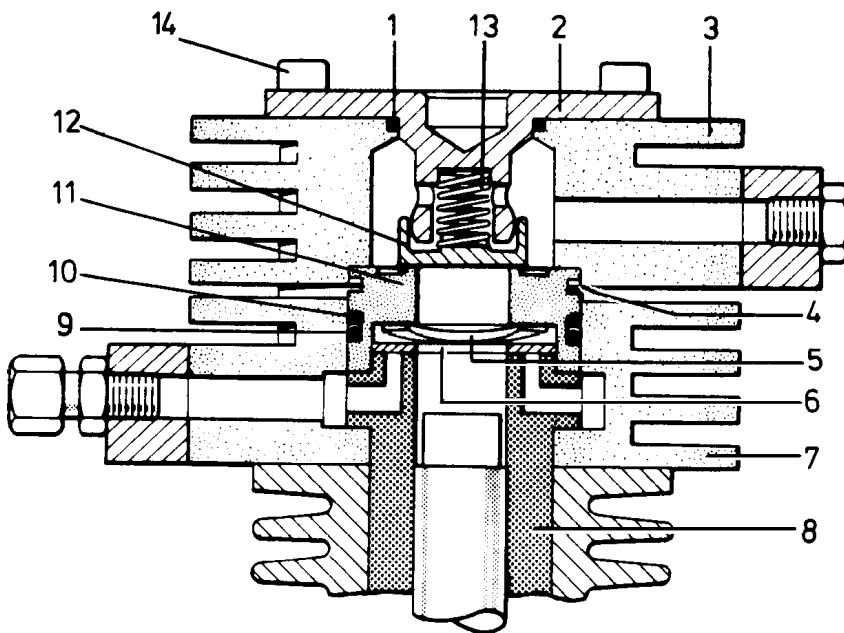

Fig. 50 Valve head and valves, 4th stage
- Tighten studs (3) by hand.
- Screw on hex. nut (1) and tighten with torque wrench while holding studs in position with a screw-driver.
The valves are located in the valve head of the 4th stage, see Fig. 50. The inlet valve merely comprises a valve disk (6) and a wavy washer (5). The inlet valve seat is machined directly into the cylinder liner (8) of the 4th stage piston. The discharge valve consists of the valve seat (11), valve disk (12), valve spring (13), and stroke limiter (2).